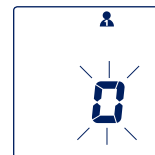

Figure 2
- After the device has completed its calibration against the ambient air pressure (Figure 2), the automatically controlled inflation process starts. The cuff is inflated to the pressure required for measurement.